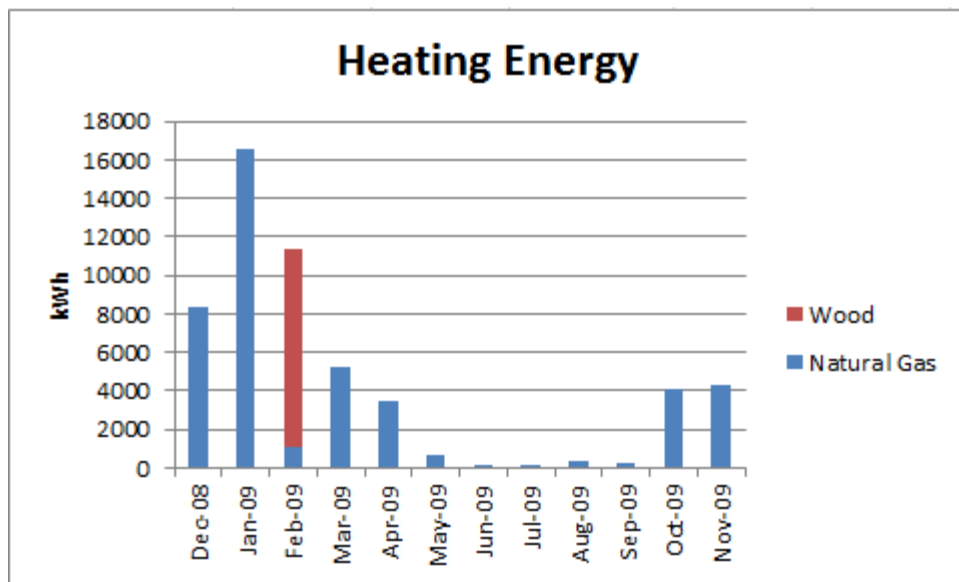

Figure 3.45. Stacked column chart shows contribution of firewood in February
- On the Chart Tools Design tab, in the Type group, click the Change Chart Type button. On the menu, under Column, choose Stacked Column, and then click the OK button. The stacked column chart adds the values for each column and shows how each contributes to the height of the column. Observe that the total heating energy for February is closer to what our world knowledge would lead us to expect, as shown in Figure 3.45.